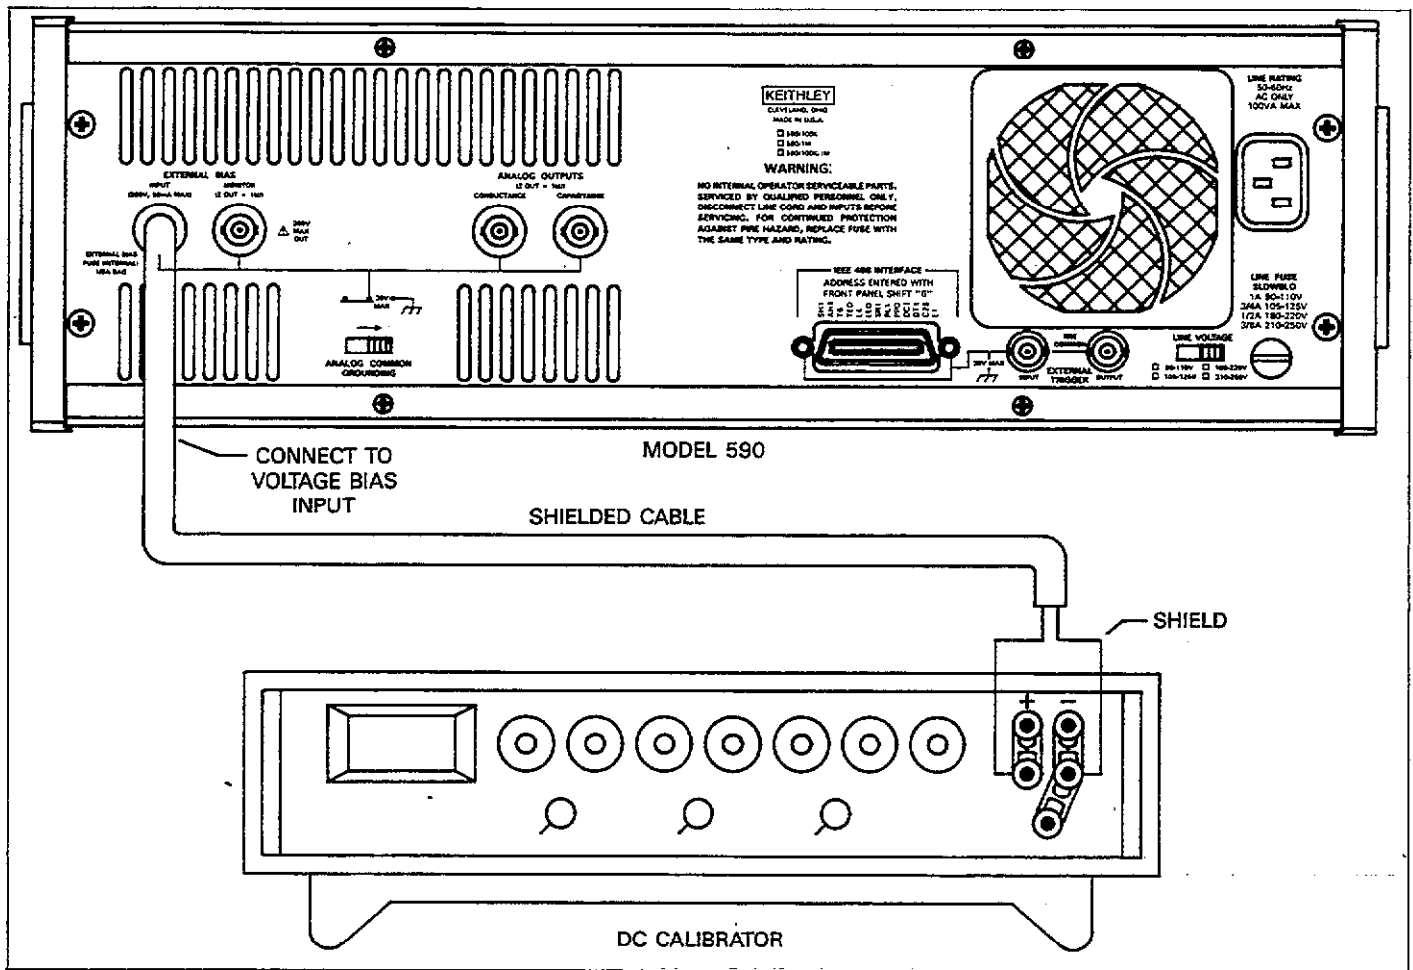

Figure 7-6. Connections for 200V Read-Back Calibration
1. Connect the DC voltage calibrator to the rear panel VOLTAGE BIAS INPUT jack, as shown in Figure 7-6.